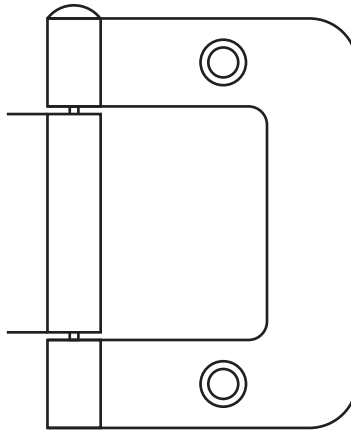

Fig. 3.1
- 3 Fig. 3.1 shows an incomplete drawing of a flush hinge.
Add to Fig. 3.1 to complete the drawing of the flush hinge.